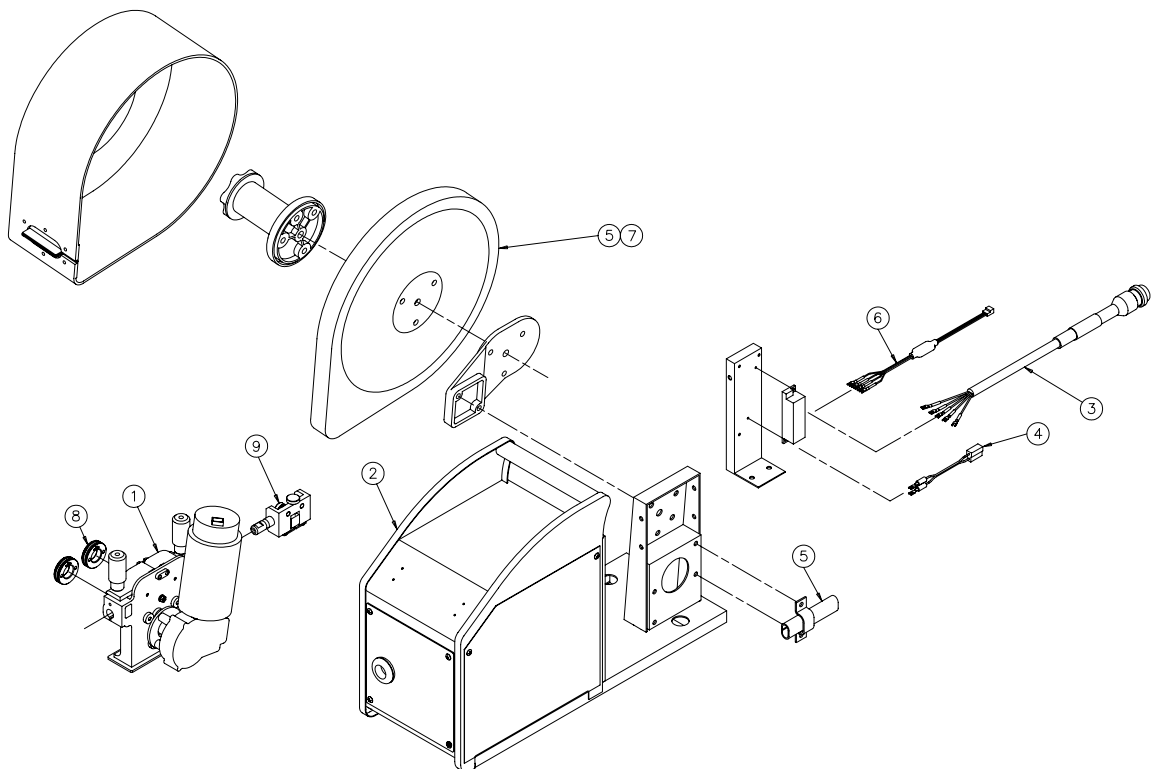

Fig. 8.1 Exploded diagram of wire feeding unit (AFUF-4201)
- If the parts are getting worn out or damaged while using the wire feeding unit, see Fig. 8.1 ~ 8.2 and Table 8.1 ~ 8.3 to place an order with our sales office or agent. When ordering, be sure to provide the item name and part No. Note that the component indicated by () for its quantity is an optional item.